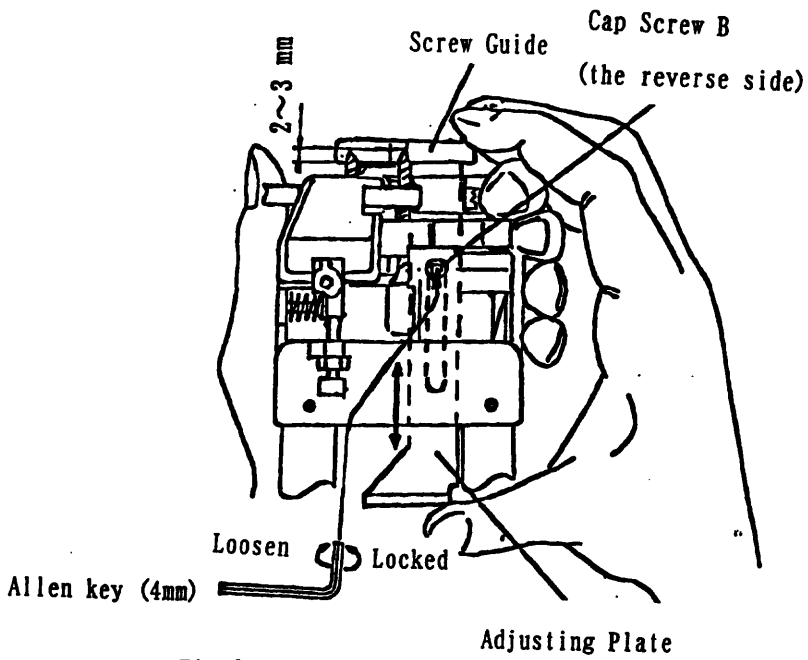

Fig. 6
- (g) To drive screws of different lengths :- No matter what length of screw is being driven, the head of the screw will always be in the same position on the feeder block. However, the distance between the tip of the screw and the size piece will change with respect to the screw length. This distance should be approximately kept at 0-2mm by adjusting the size piece. For screws of 25mm (1") in length, the size piece should be in its fully retracted position. The size piece is adjusted by loosening screw 'B' on the underside of the feeder block and moving the size piece in and out as shown in figure 6.